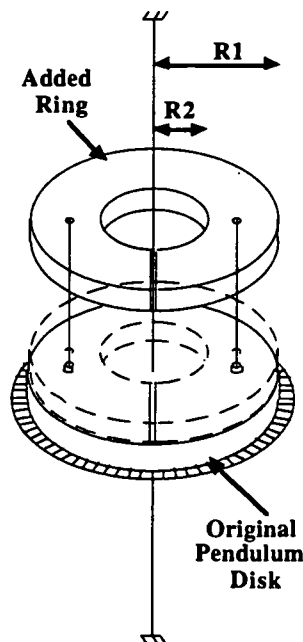

Figure 3: A ring with a known moment of inertia  $I_{ring}$  is added to the pendulum to deduce  $I_{disk}$ .
In Part IV of the experiment, you will measure the moment of inertia  $I_{disk}$  of the main disk of the pendulum. However, it is rather inconvenient to directly measure  $I_{disk}$  for two reasons: first, its irregular geometry poses a problem when calculating a moment of inertia, and second, it would require us to disassemble the pendulum. Therefore, an indirect method is adopted to measure its moment of inertia. First, the period  $T_{disk}$  of the torsion pendulum alone is measured. You have done this in Part II already. Next a ring with a calculable moment of inertia is added to the pendulum as shown in Figure 3. According to Serway Table 10.2, the moment of inertia of a ring of mass  $M$  is given by
2. As shown in Figure 3, place the ring on top of the torsion pendulum disk. Measure  $T_{new}$ .
2. In Part IV of the experiment you will add a large aluminum ring to the original aluminum disk of the torsion pendulum as shown in Figure 3. By measuring the new period of oscillation  $T_{new}$ , it is possible to deduce the moment of inertia of the original disk.